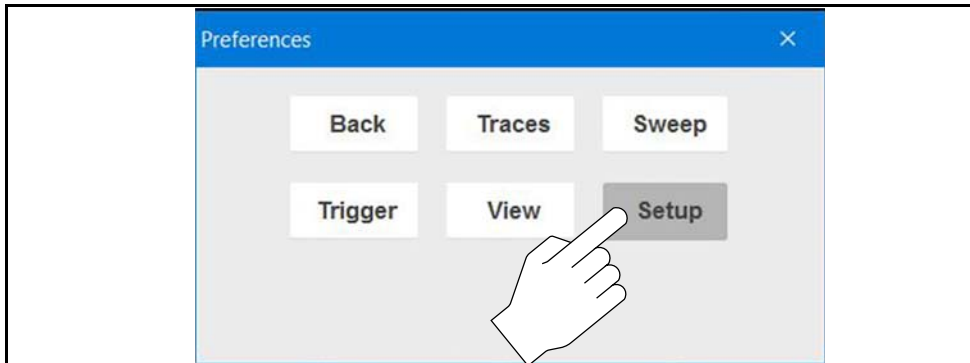

Figure 9-58
5. From the Preferences menu select **Setup** (Figure 9-58).